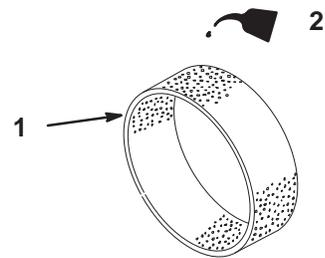

Figure 20
- Put one or two ounces of oil on the element (Fig. 20).